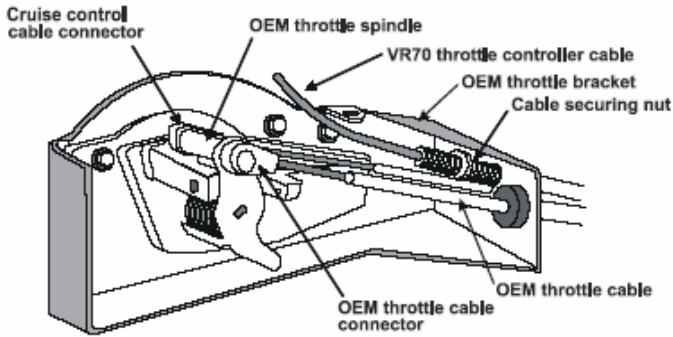

Figure 4.4
- ☐ Insert the throttle cable through the hole, install a serrated washer and thread on the securing nut (Figure 4.4).